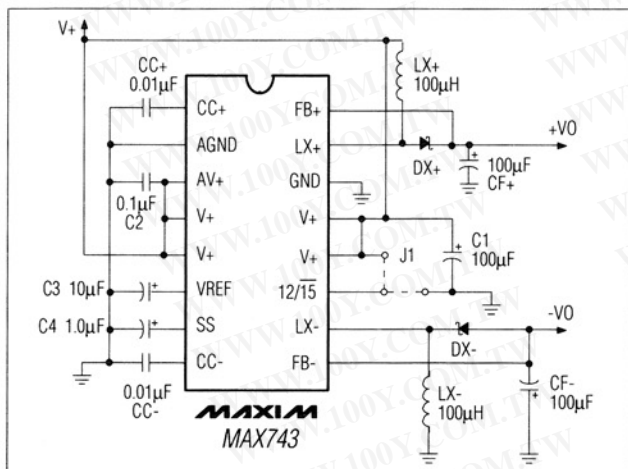
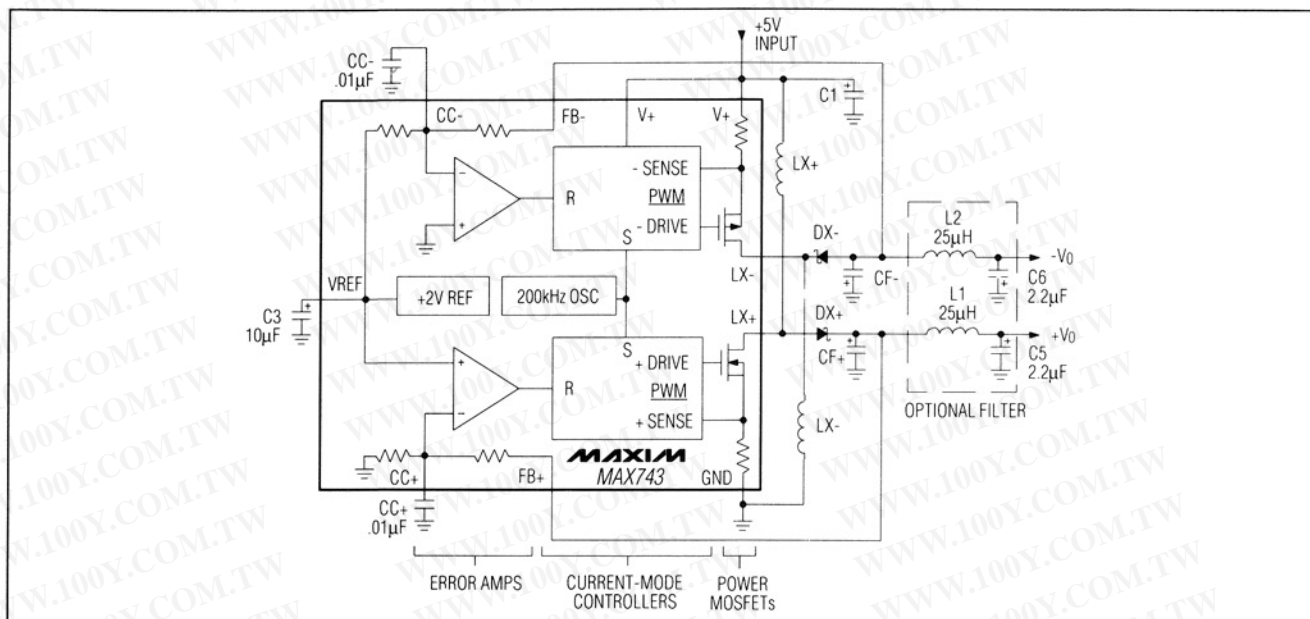
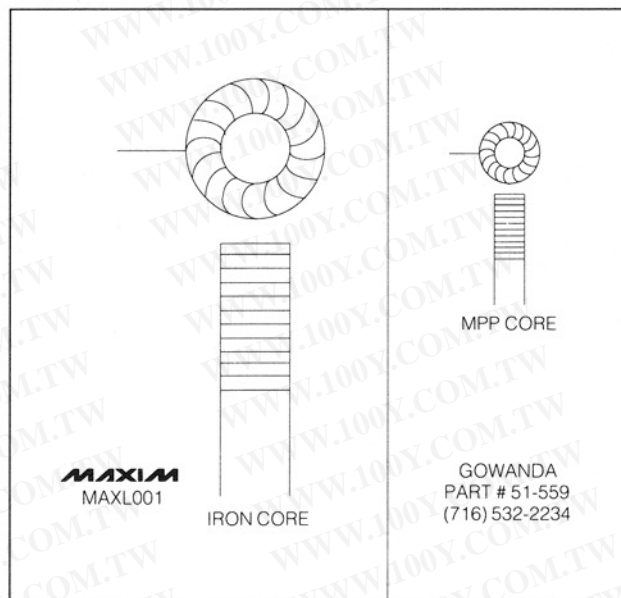
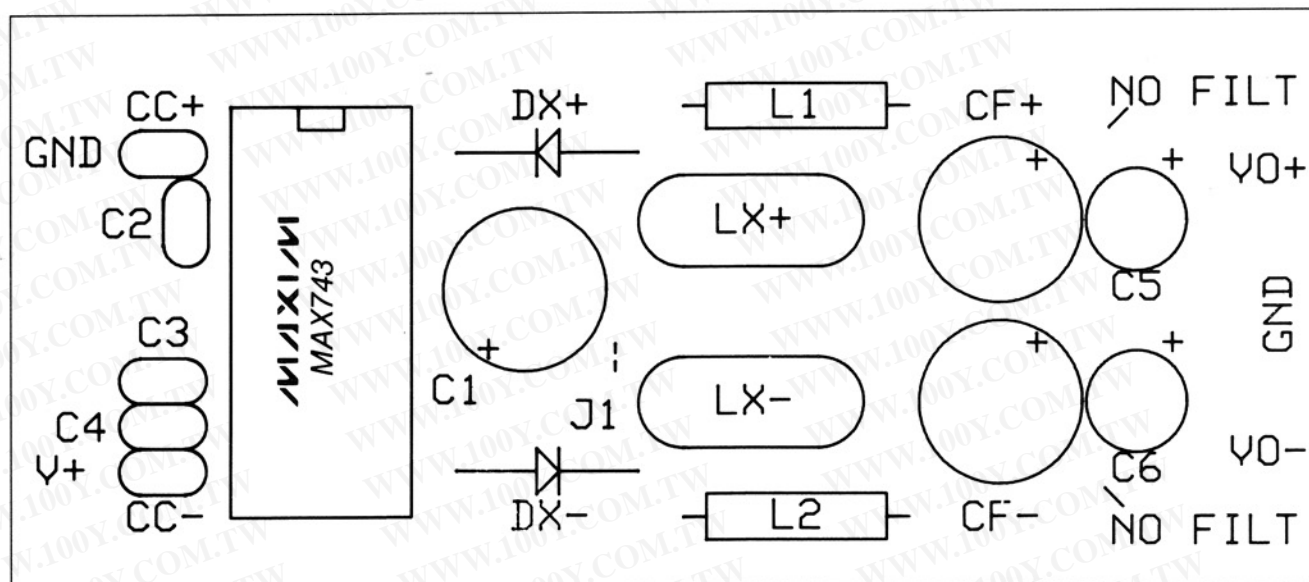

Figure 1. Basic Application Circuit
Figure 4. Functional Diagram with Optional Pi Filter
Figure 5. 100 μ H Low-EMI Inductors for 3W Supplies (Actual Sizes) (See Table 1)
Figure 7. Component Placement Diagram for PC Layout of Figure 6
(Circuit of Figure 1, $+4.5V < V_+ < +5.5V$, Note 1.)
(Circuit of Figure 1, $V_+ = +5.0V$, $12/15$ pin = $0V$, $I_{LOAD} = 0$, $T_A = T_{MIN}$ to T_{MAX} , unless otherwise noted.)
The circuit in Figure 1 has been tested at all line, load, output current, and temperature limits. Refer to the Electrical Characteristics table for guaranteed in-circuit specifications. Successful use of this circuit requires no component calculations.
The MAX743EVKIT Evaluation Kit demonstrates the output capabilities and noise performance of the MAX743 standard application circuit (Figure 1). The kit includes main switching components identical to those found in the high-volume production kit described on page 11 (MAX743CPEKIT). With a few quick modifications, the circuit can also serve as a low-noise test bed to evaluate other components, such as the miniature MPP toroid inductor of Figure 5. The kit includes optional Pi filters shown in the Functional Diagram (Figure 4), which reduce output noise to less than 2mVp-p.
1. Build Circuit. Assemble the PC board according to the component placement diagram of Figure 7 and the schematic of Figure 4. 3 resistors will be left over (and used for testing). The extra holes near LX and CF are options for nonstandard component sizes. Do not install jumper, J1, or C4.